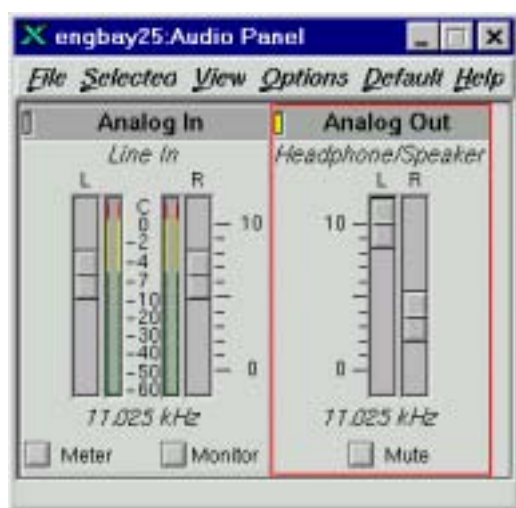

Figure 2-25 Audio Panel
- 3.) Leave all audio panel sliders at their default positions, as shown in Figure 2-25.